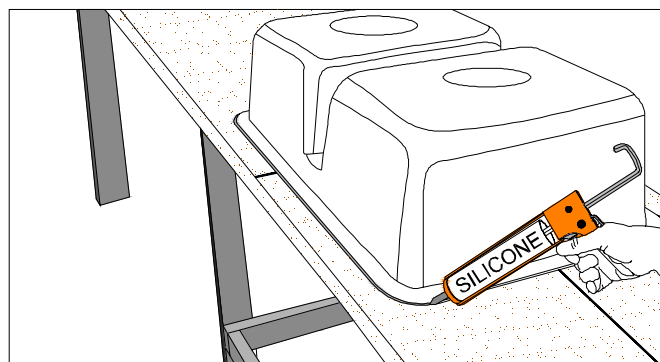

Figure 21C
- Fill gap between sink rim and substrate with 100% silicone. (FIG. 21C)